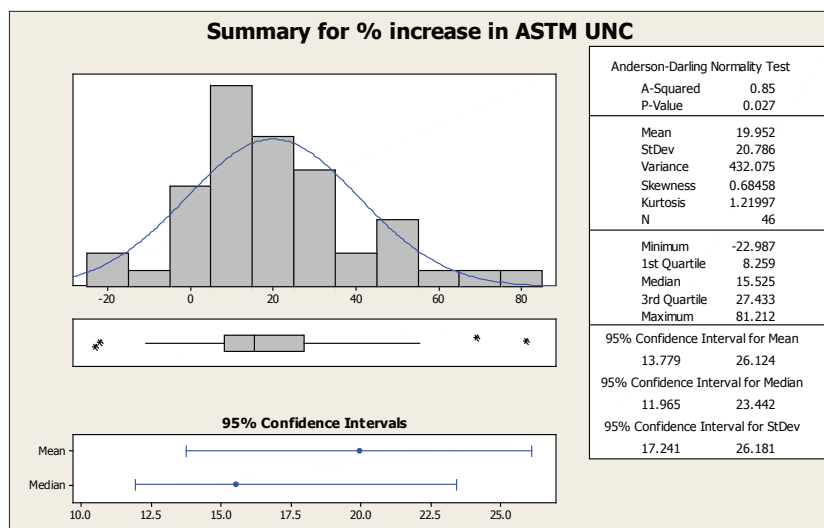

Figure 1. Using 46 ASTM E74 calibrations and not removing the ending zero resulted in an average increase in the ASTM E74 uncertainty of 19.952%.
Figure 1 shows that use of method (A) ignoring the trailing or ending zero results in an increase of the ASTM E74 Lower Limit Factor (LLF) for the majority of instruments calibrated.